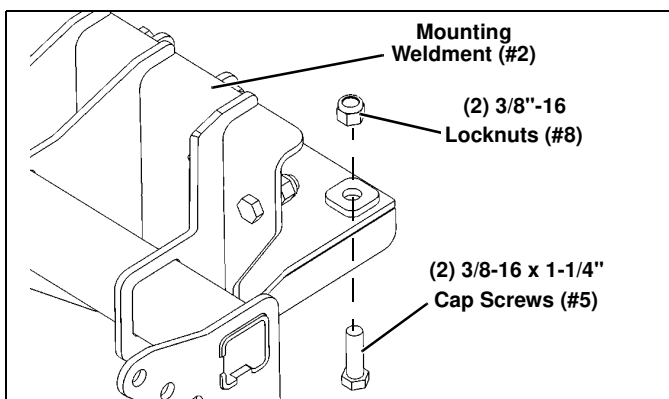

Figure 6
8. Secure the last two holes of the Mounting Weldment (#2) with (2) 3/8"-16 x 1-1/4" Cap Screws (#5) and (2) 3/8"-16 Locknuts (#8). These will mount to the A-arm brackets that were drilled. (See Figure 6.)